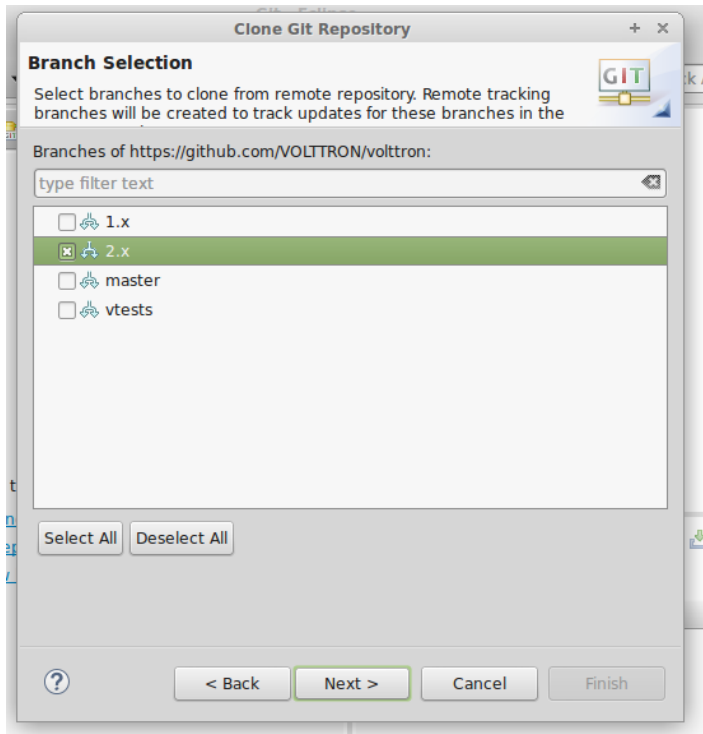

Figure 65: Checking Out VOLTRON with Eclipse from GitHub (continued)
5. Select the 2.x branch (Figure 65)